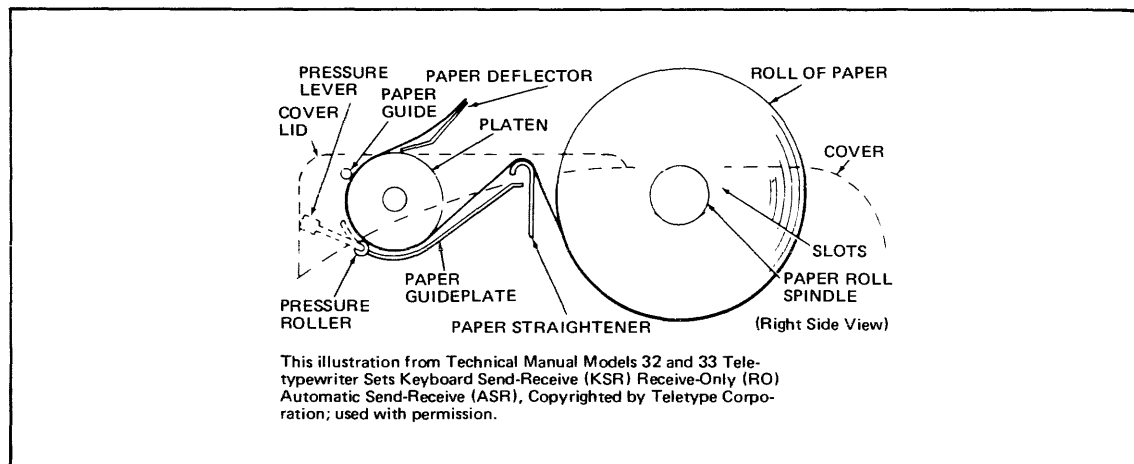

Figure 2-5. Installation of Paper Roll
To install a new paper roll, follow these directions. Figure 2-5 illustrates the components discussed in the text.
3. Place the roll in the recess provided at the rear of the cover. The ends of the spindle extending from both ends of the roll should rest in the associated slots (see Figure 2-5 for paper feed direction).